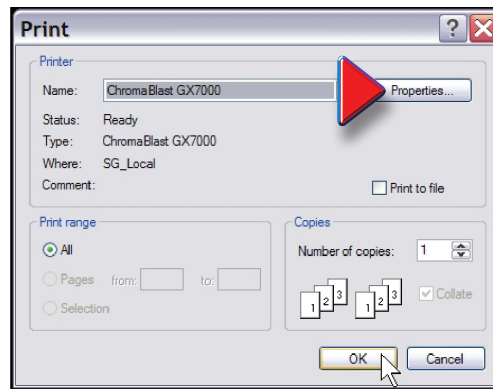
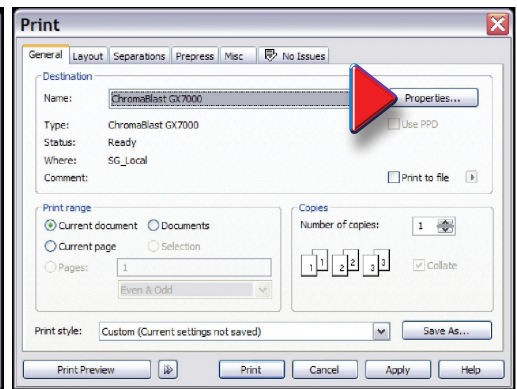

Figure 6
Figure 7
4. Click the **Properties** button (Fig 6, **Adobe**, Fig 7, **Corel**). This action will take you to the **Document Properties** window, **Virtual Printer Driver** area, where you have access to the three main property groups we have color coded for simplicity—**Paper & Driver Configuration**, **Color Options** and **Resources & Utilities** (see illustration below).